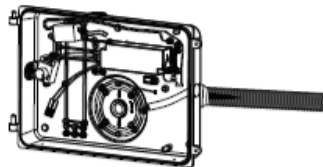

Fig. 2-3A
3. Remove the appropriate threaded plug (top or sides) from the housing to allow conduit entry and attach conduit. Make electrical connections per electrical code. Connect black wire to LINE, white wire to COMMON and Green or Green/Yellow to GROUND. Make sure any holes are sealed with a weatherproof sealant. (Fig. 2-3A-B).